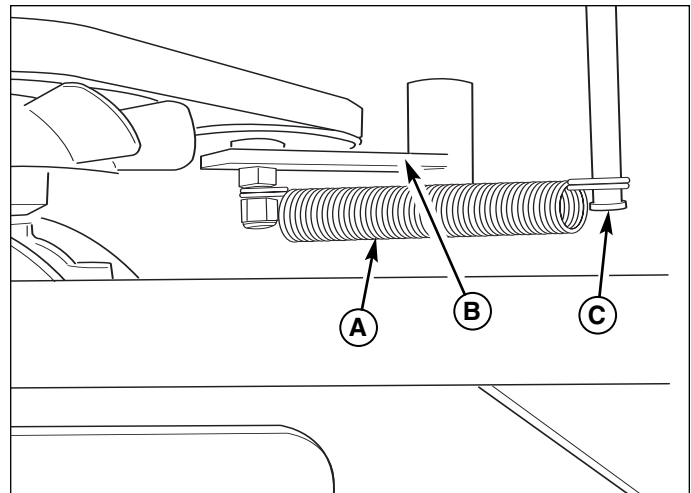

Figure 16. Transaxle Drive Belt
4. With a steel coat hanger, form a small hook. Insert the coat hanger through the opening in the right-hand side of the engine deck. Use the coat hanger to remove the spring (A, Figure 16) from the anchor pin (C).